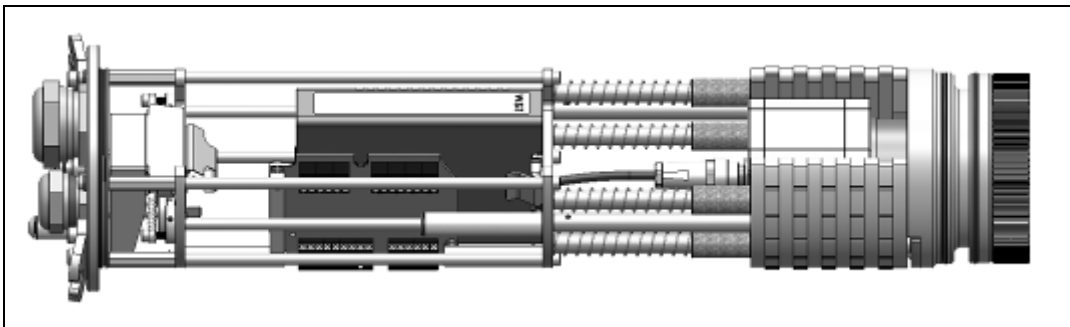

Figure 53: Chassis with PI camera, industrial PIF and USB server Gigabit
7. Then connect the PI camera and the USB server Gigabit with the provided USB cable and the Industrial PIF with the camera. Combine the network connector and the USB server Gigabit (**Figure 53**).